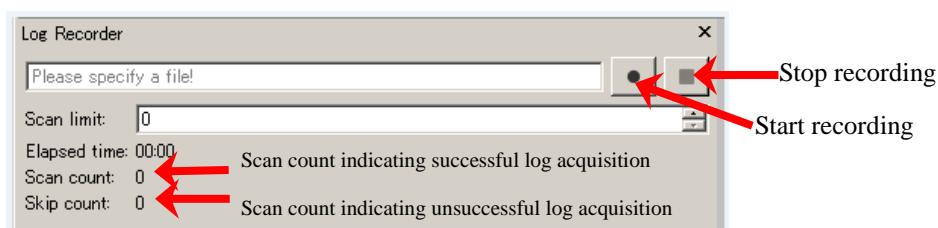

Figure 3-18 Data logging window
- ③ When data logging window is displayed as in figure 3-18, enter the number of scans you want to record in the scan limit box (if the scan limit is 0, records until stop button is clicked)
- ④ After entering the number of scans, click start recording button as show in figure 3-18.